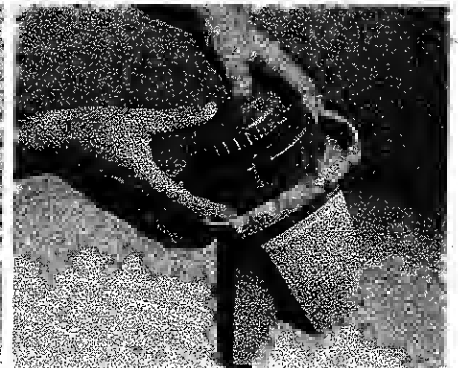

FIGURE 11
- B. The hub containing the spool should simply lift off the drive adapter. If you have difficulty removing the hub from the drive adapter, replace the ball lock as illustrated in Figure 11 and lift the hub.